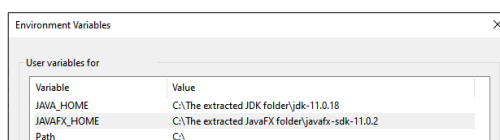

Figure 13. Environment Variables panel in Windows
- b. Set the JAVA\_HOME and JAVAFX\_HOME environment variables by double clicking on them and specifying the directories of the extracted JDK and JavaFX files, respectively, as shown in Figure 13.